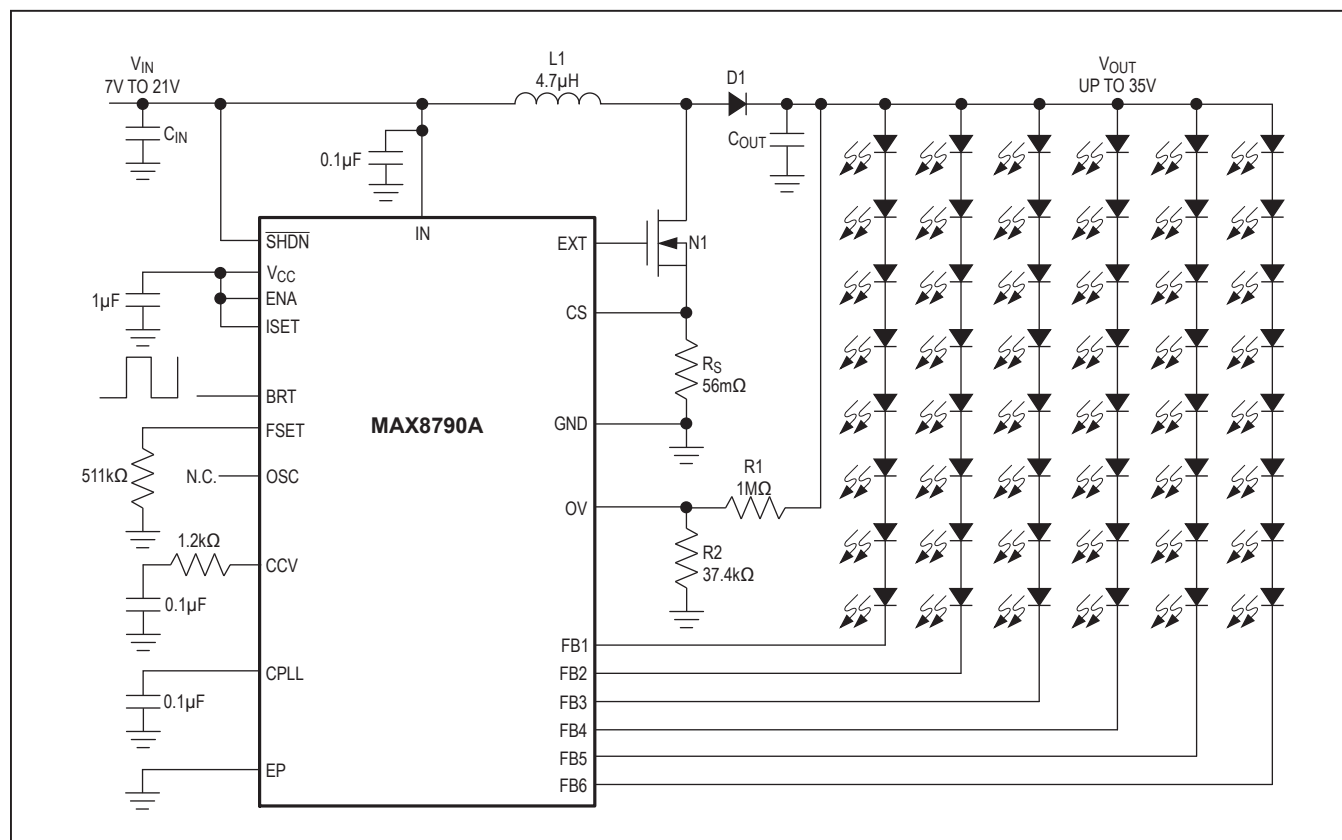

Figure 1. Typical Operating Circuit
Electrical Characteristics (continued)(Circuit of Figure 1. $V_{IN} = 12V$, $V_{SHDN} = V_{IN}$, $CCV = 0.1\mu F$, $T_A = -40^{\circ}C$ to $+85^{\circ}C$, unless otherwise noted.) (Note 2)
To protect the step-up converter when the load is open, or the output voltage becomes excessive for any reason, the MAX8790A features a dedicated overvoltage feedback input (OV). The OV pin is connected to the center tap of a resistive voltage-divider from the high-voltage output (see Figure 1). When the MAX8790A is powered up, if none of the LED strings on FB1–FB6 are connected to the step-up converter output, the step-up converter regulates the output voltage to $V_{\text{OUT}} = 1.23\text{V}(1 + R_1 / R_2)$. When V_{OV} exceeds 1.23V, a comparator turns off N1. The step-up converter switch is reenabled after the output voltage drops below the protection threshold.